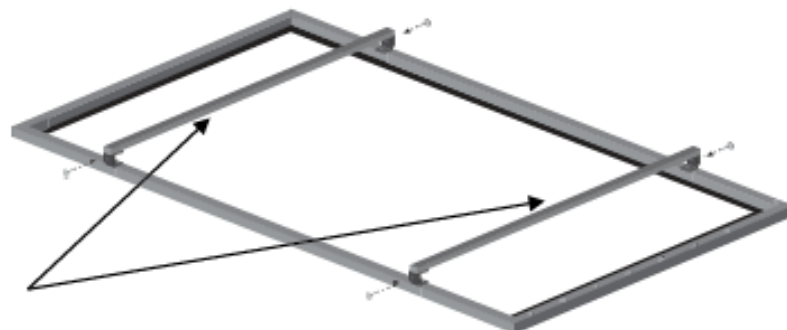

Figure 2: Temporarily Attaching Wall Boards to the Frame
1. Lay assembled frame face down on a clean surface (see Figure 2).